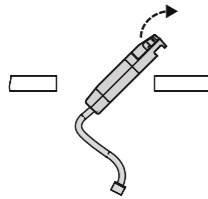

Fig. 4
- Insert the driver into the ceiling hole (see Fig. 3) and connect the downlight to the driver using the supplied connectors (see Fig. 4).